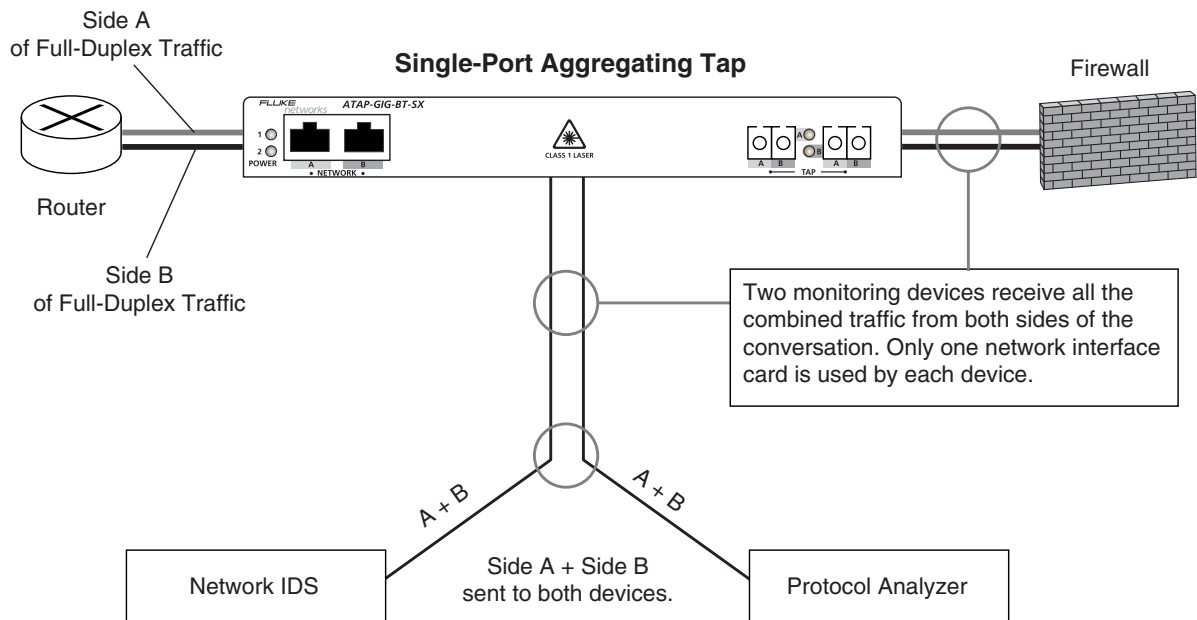

Figure 7. Typical ATAP-GIG series Link Aggregating In-Line Tap application (ATAP-GIG-BT-SX single-port dual-1000BASE-SX tap unit shown here).
**Figure 7** depicts a typical ATAP-GIG Link Aggregating In-Line Tap scenario.